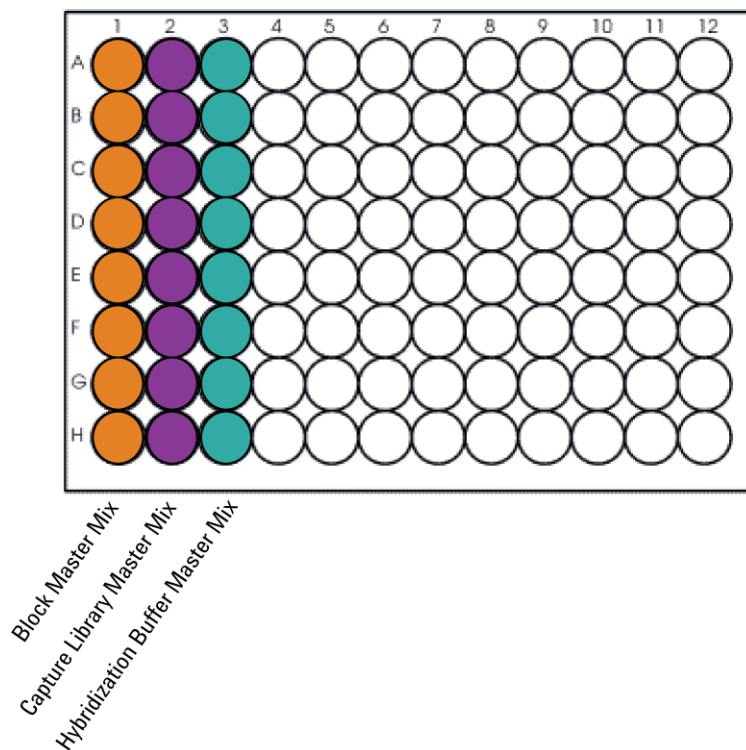

Figure 8 Configuration of the master mix source plate for 06 Hybridization_QXT_v1.0.pro.
- 8 In a Nunc DeepWell plate, prepare the master mix source plate containing the master mixes prepared in step 5 to step 7 at room temperature. Add the volumes indicated in Table 36 of each master mix to each well of the indicated column of the Nunc DeepWell plate. When using multiple Capture Libraries in a run, add each Capture Library Master Mix to the appropriate row(s) of the Nunc DeepWell plate. The final configuration of the master mix source plate is shown in Figure 8.